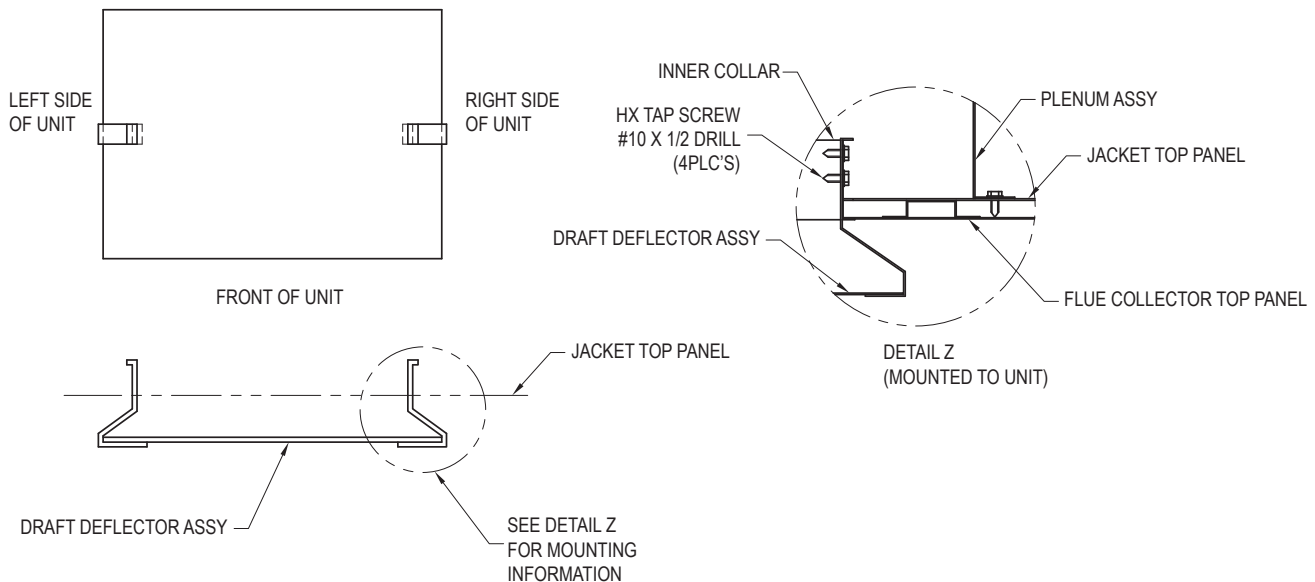

Figure 9. Draft Deflector, Models 0962-1826
2. Fit the deflector plate assembly through the flue collar so it hangs below the flue collar, parallel to the long axis of the heater, as shown in **Figure 9**. Attach it to the flue collar with the four (4) #10 screws provided.
3. Locate the plenum assembly to the jacket top, using the silicone sealant and screws provided. Use a #28 drill (.1405") to drill the eight (8) holes needed for the mounting screws. The assembly will be positioned towards the rear of the heater. Note that the main housing is centered on the flue collar of the unit. The discharge collar is offset from that. See **Table C** for dimensions. Once the screw holes have been drilled, run a bead of silicone sealant around the perimeter of the joint and screw the housing into place.